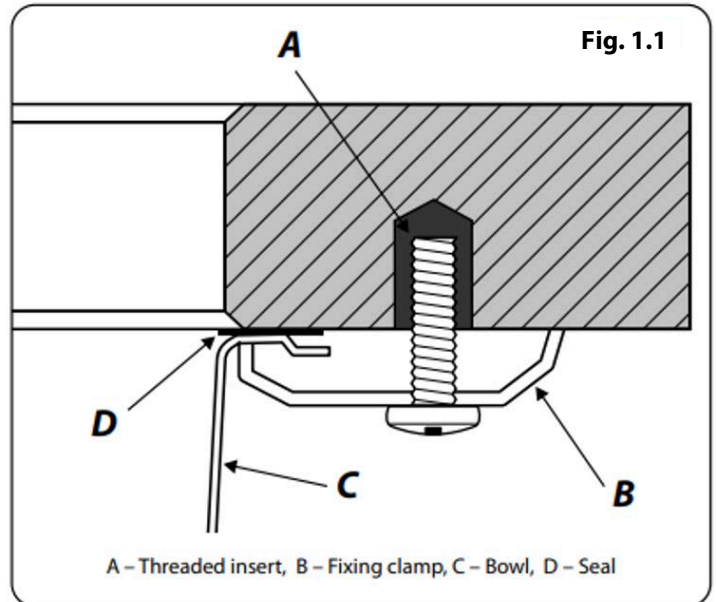

Fig. 1.2
1. Place the sink upside down on the worktop. Position the sink on the worktop as required. Make sure the cabinet framework will clear all parts of the sink. Using a soft, sharp pencil draw around the sink as accurately as possible (Fig. 1.2). Remove the sink.